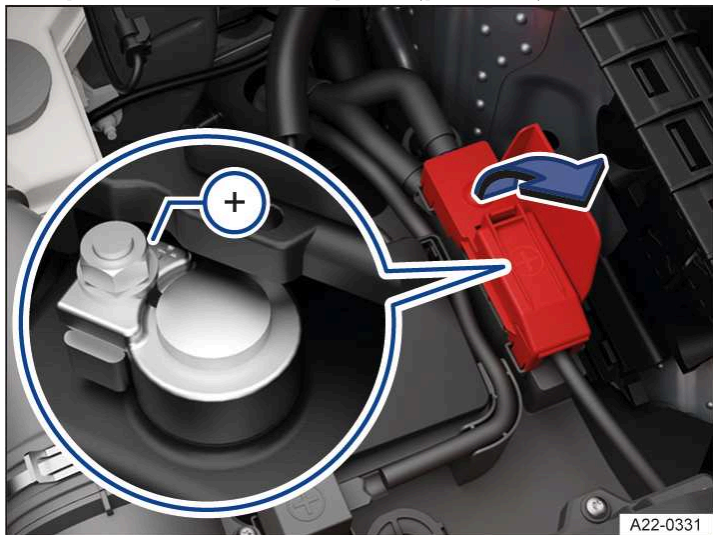
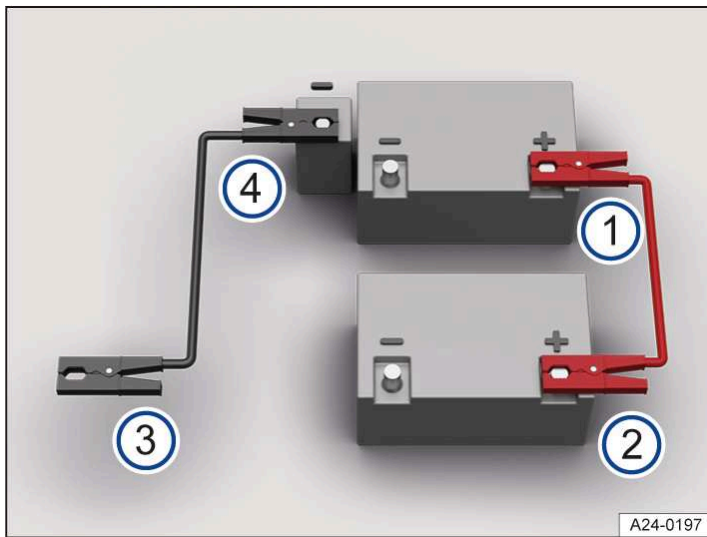
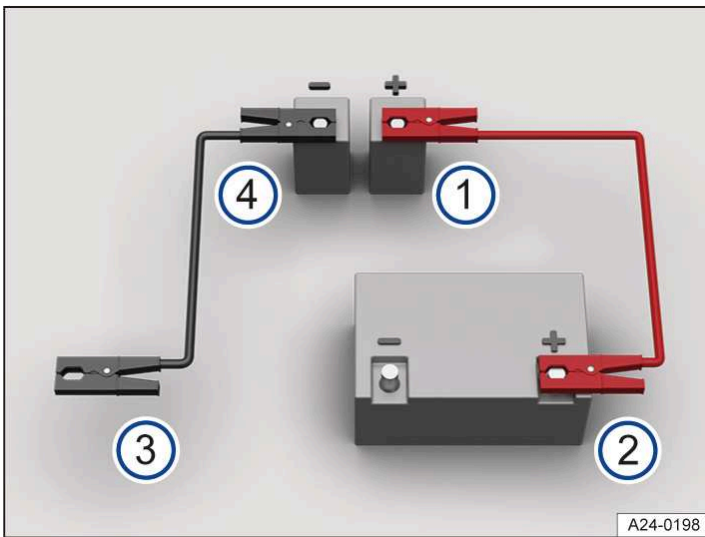

Fig. 2 In the bonnet space underneath a cover: positive jump-start connection point.
Fig. 3 Schematic diagram of how to connect the jump leads.
Fig. 4 Diagram showing how to connect jump leads in vehicles with a 12-volt vehicle battery in the vehicle interior.
Connect the jump leads only in the order 1 – 2 – 3 – 4 → Fig. 3.
3. Connect one end of the red jump lead to the positive terminal + of the 12-volt vehicle battery with the discharged 12-volt vehicle battery → Fig. 3 ① → Fig. 2.
4. Connect the other end of the red jump lead to the positive battery terminal + of the vehicle providing assistance → Fig. 3 ②.
5. Connect one end of the black jump lead to an earth jump-start connection point – on the vehicle with the 12-volt vehicle battery providing assistance → Fig. 3 ③.
- Or:** if no earth jump-start connection point – is present, connect the end of the black jump lead to a solid metal part that is securely bolted onto the cylinder block or to the cylinder block itself on the vehicle with the 12-volt vehicle battery providing assistance → Fig. 3 ③.
6. Connect the other end of the black jump lead to the earth jump-start connection point – on the vehicle with the discharged 12-volt vehicle battery → Fig. 3 ④ → Fig. 1.
Connect the jump leads only in the order 1 – 2 – 3 – 4 → *Fig. 4*.
3. Connect one end of the red jump lead to the positive jump-start connection point + of the vehicle with the discharged 12-volt vehicle battery → *Fig. 4* ① → *Fig. 2*.
4. Connect the other end of the red jump lead to the positive battery terminal + of the vehicle providing assistance → *Fig. 4* ②.
5. Connect one end of the black jump lead to an earth jump-start connection point – on the vehicle with the 12-volt vehicle battery providing assistance → *Fig. 4* ③.
- Or:** if no earth jump-start connection point – is present, connect the end of the black jump lead to a solid metal part that is securely bolted onto the cylinder block or to the cylinder block itself on the vehicle with the 12-volt vehicle battery providing assistance → *Fig. 4* ③.
6. Connect the other end of the black jump lead to the earth jump-start connection point – on the vehicle with the discharged 12-volt vehicle battery → *Fig. 4* ④ → *Fig. 1*.